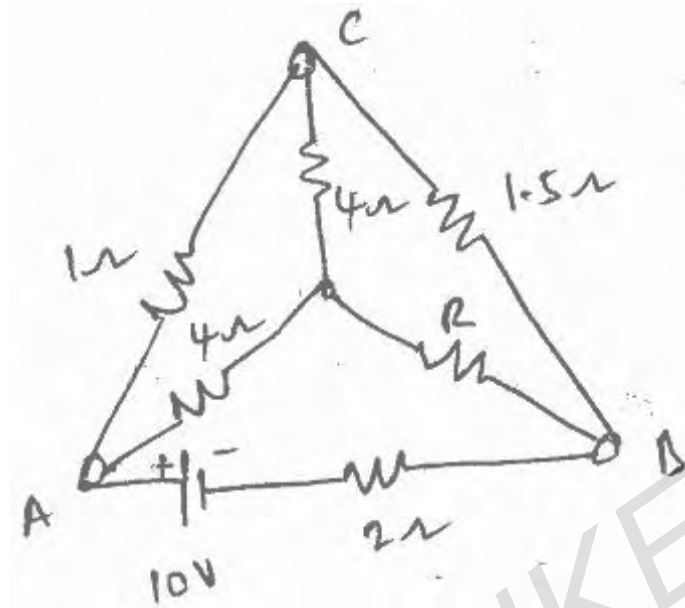

Figure 1
6. Calculate the unknown resistance R and the current flowing through it when the current in the branch OC is zero. (figure 1) [16]